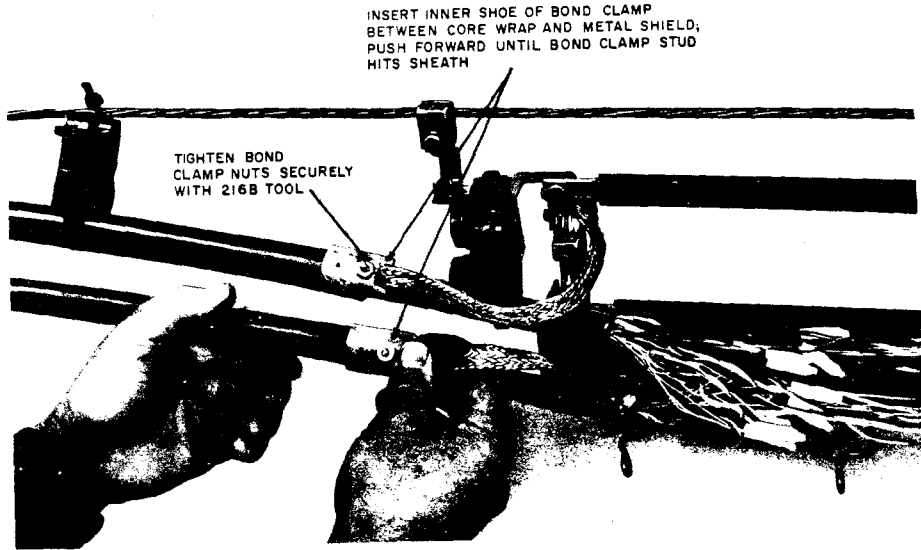

Fig. 5—Installing Bond Clamps
(6) Slide inner shoe of bond clamp between core wrap and metal shield until threaded stud hits end of sheath (Fig. 5). On cables less than 0.80 inch in diameter, slit the sheath 1-1/2 inches